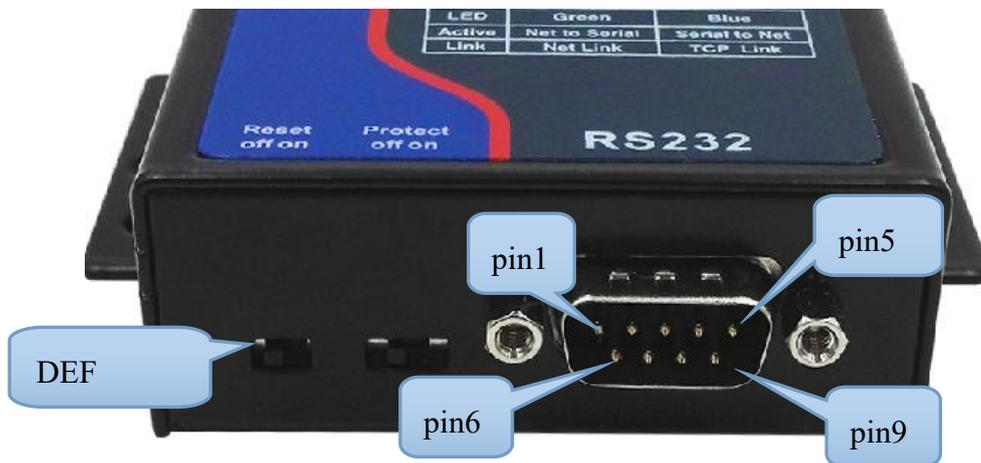

Figure 5 RS232 interface and DIP switch
- 4 **RS232**: Using DB9 male head, RS232 needle sequence is shown in Figure 5.